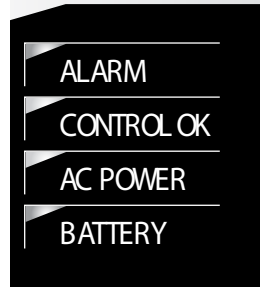

Figure 43. Battery alarm LED.
- During a battery test a 5Ω, 55 watt resistor is placed across the battery terminals for approximately 5 seconds. The Form 4D control measures the battery voltage, if the voltage drops below 22.8 VDC the BATTERY LED illuminates (Figure 43) and a battery alarm is issued, if configured, at the end of the test.